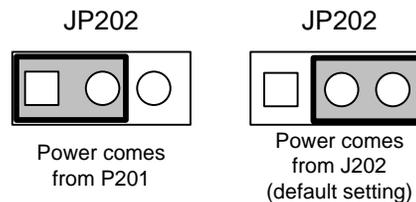

Figure 14. FT 5000 EVB Power Selector Header (JP202)
Mount the jumper for the **JP202** header to determine the external power source for the FT 5000 EVB, as shown in **Figure 14**.
2. Set the FT 5000 EVB's **JP202** jumper to use power from the **P201** Gizmo header (the left-hand image of **Figure 14**).